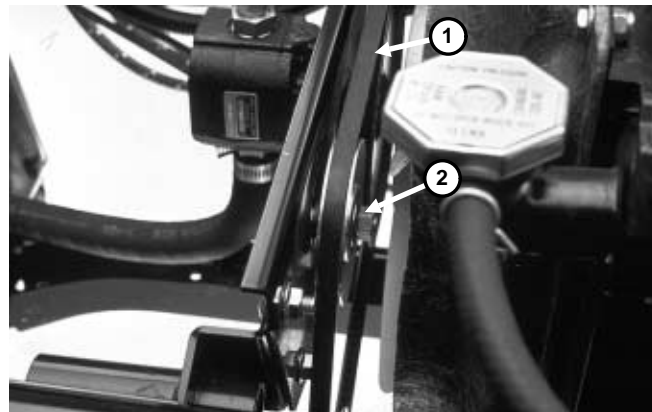

Figure 37
1. Loosen locknut on idler pulley (Fig. 37).